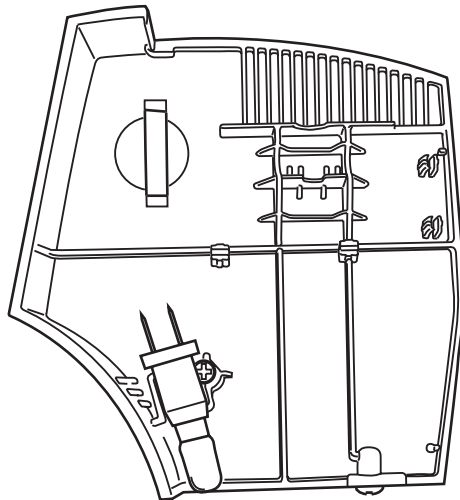

Fig. 3
- Remove the complete face plate together with the sewing lamp and cable (fig. 3).
- Unhook spring 3 (fig. 3).
- Unhook spring 9 (fig. 3).
- Loosen screw 15 (fig. 3).